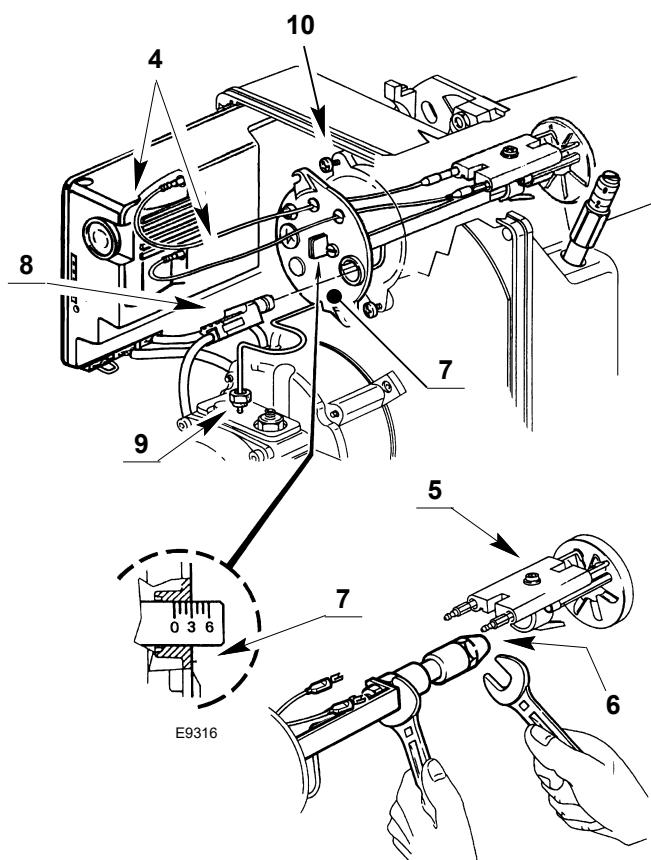
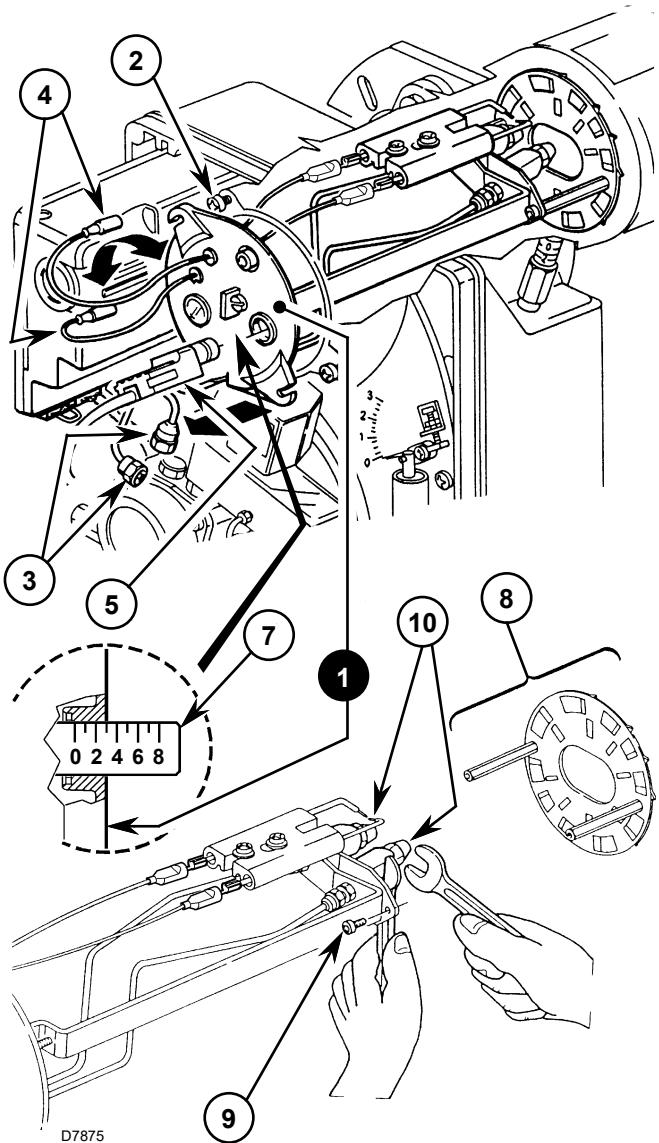

Fig. 14
Fig. 15
Turn the adjustment screw clockwise or anti-clockwise until the notch is against the regulating rod 7) Fig. 14 and Fig. 15 lines up with the outer surface of the nozzle-holder assembly 1) Fig. 15.
the regulating rod 7) Fig. 15 is set at notch 3; this means that the burner is regulated for a delivery of 2.00+2.00 GPH at 12 bar, as shown in Tab. I, on page 22.
To access the nozzle for 398T1 burners (Fig. 15) carry out the following operations:
- Take out the nozzle-holder assembly 1)(Fig. 15) after having loosened the screws 2), unscrewed the nuts 3), removed the wires 4) from the flame control and the flame sensor 5).
- Screw on the nozzles 10) correctly, tightening them as shown in Fig. 15.